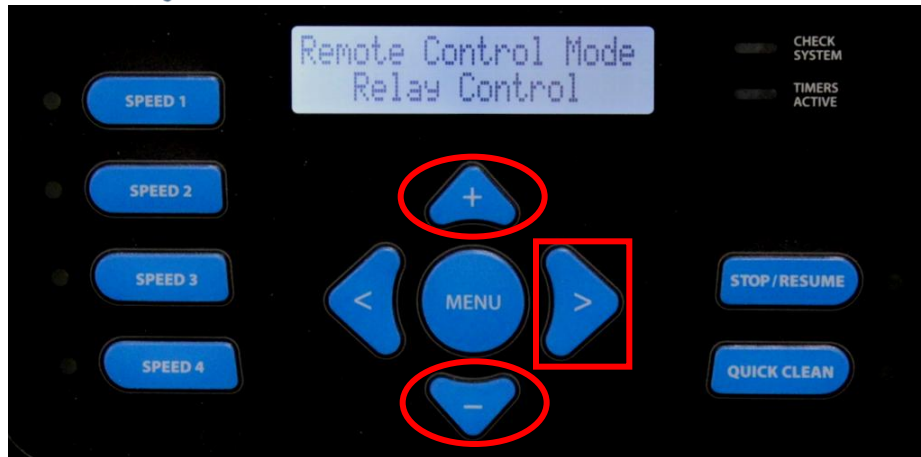

Fig 43
12. You will now see the Remote Control Mode screen. Use the **+** & **-** buttons to toggle between Stand alone/Hayward (Stand alone or Hayward/Goldline compatible software controls), or Relay Control (other controls including third party models) (fig 43 & 44). Press the **>** button to continue .